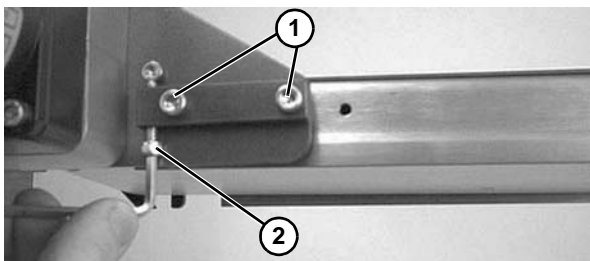

Figure 47
1. Loosen two (2) screws (Figure 47, item 1).
2. Loosen timing belt tensioner screw (Figure 47, item 2).